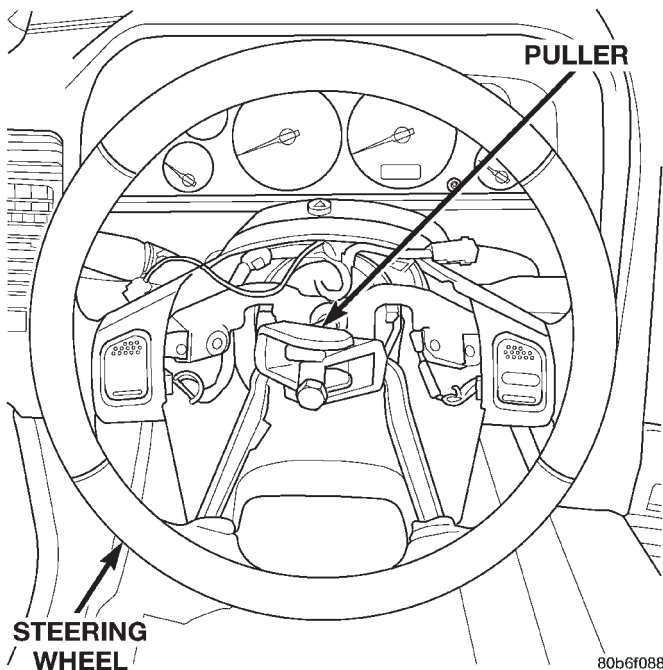

Fig. 13 Steering Wheel Remove/Install
(4) Remove the nut that secures the steering wheel armature to the steering column upper shaft, which is located within the hub cavity of the steering wheel.
(5) Pull the steering wheel off of the steering column upper shaft spline using a two-jawed puller (Special Tool C-3894-A) (Fig. 13). When installing the puller onto the steering wheel, be certain that each jaw of the puller is seated in the pocket that is cast into the underside of the steering wheel armature on each side of the hub (Fig. 14). Also, if the clockspring is to be reused, be certain not to damage or deform the clockspring case when positioning the jaws of the puller below the steering wheel armature hub.